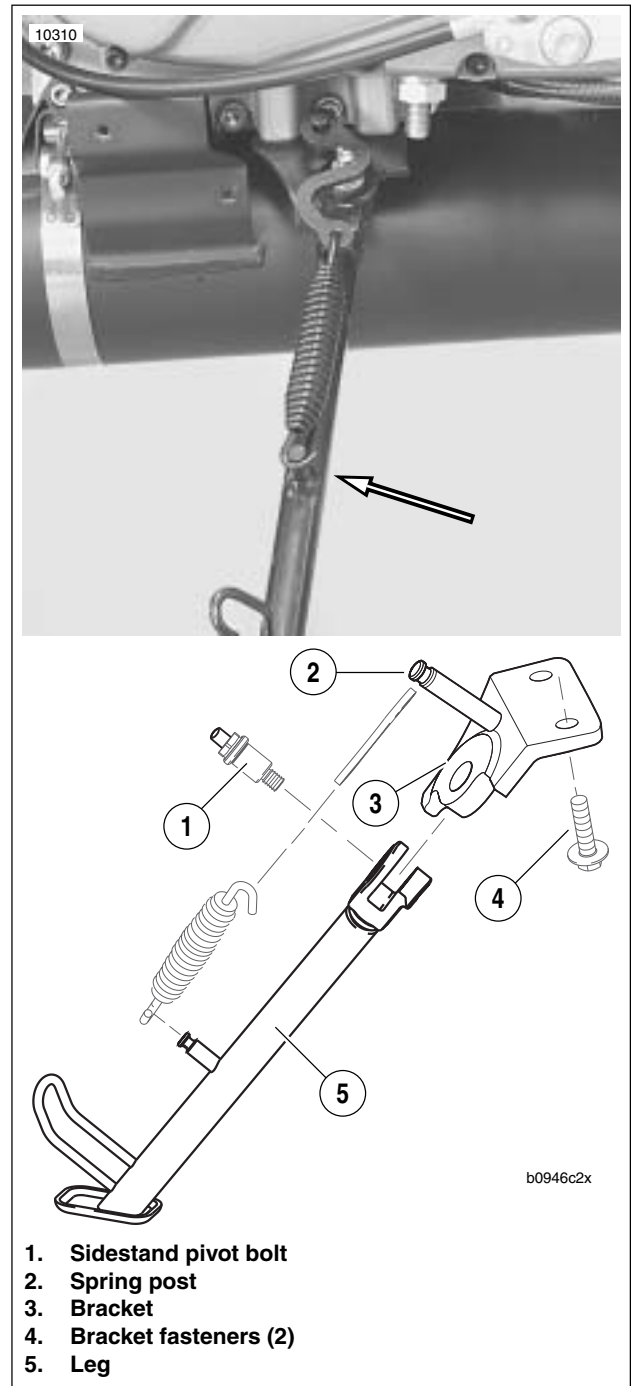

Figure 2-125. Sidestand Assembly (Extended)
2. See Figure 2-125. Remove fasteners (4) securing side-stand bracket (3) to frame.